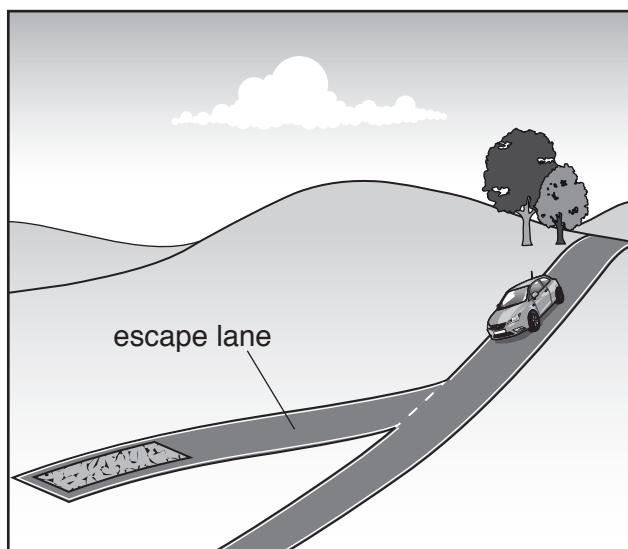

Fig. 6.4
- (d) On some steep hills there are safety tracks (called escape lanes) at the side of the road, as shown in Fig. 6.4.